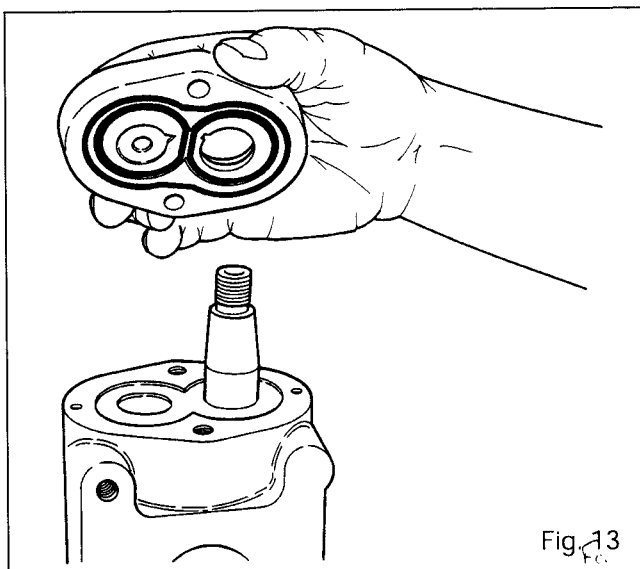

Fig. 13
32. Fit the cover (Fig. 13). Fit the bolts (1) and tighten them to a torque of 30 to 40 Nm.